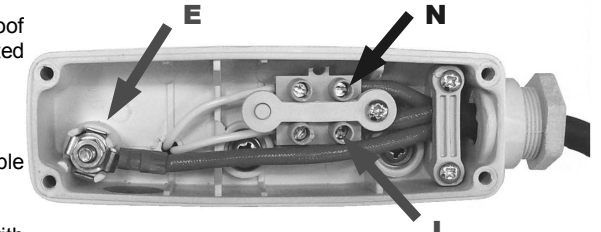

Fig. 1
2. Use a minimum of 16AWG SJTW supply cable with 2 poles and earth and sleeve with silicon glass fibre braided (250°C) Sleeving. The live and neutral wires must be connected to the terminal block. See Fig 1.